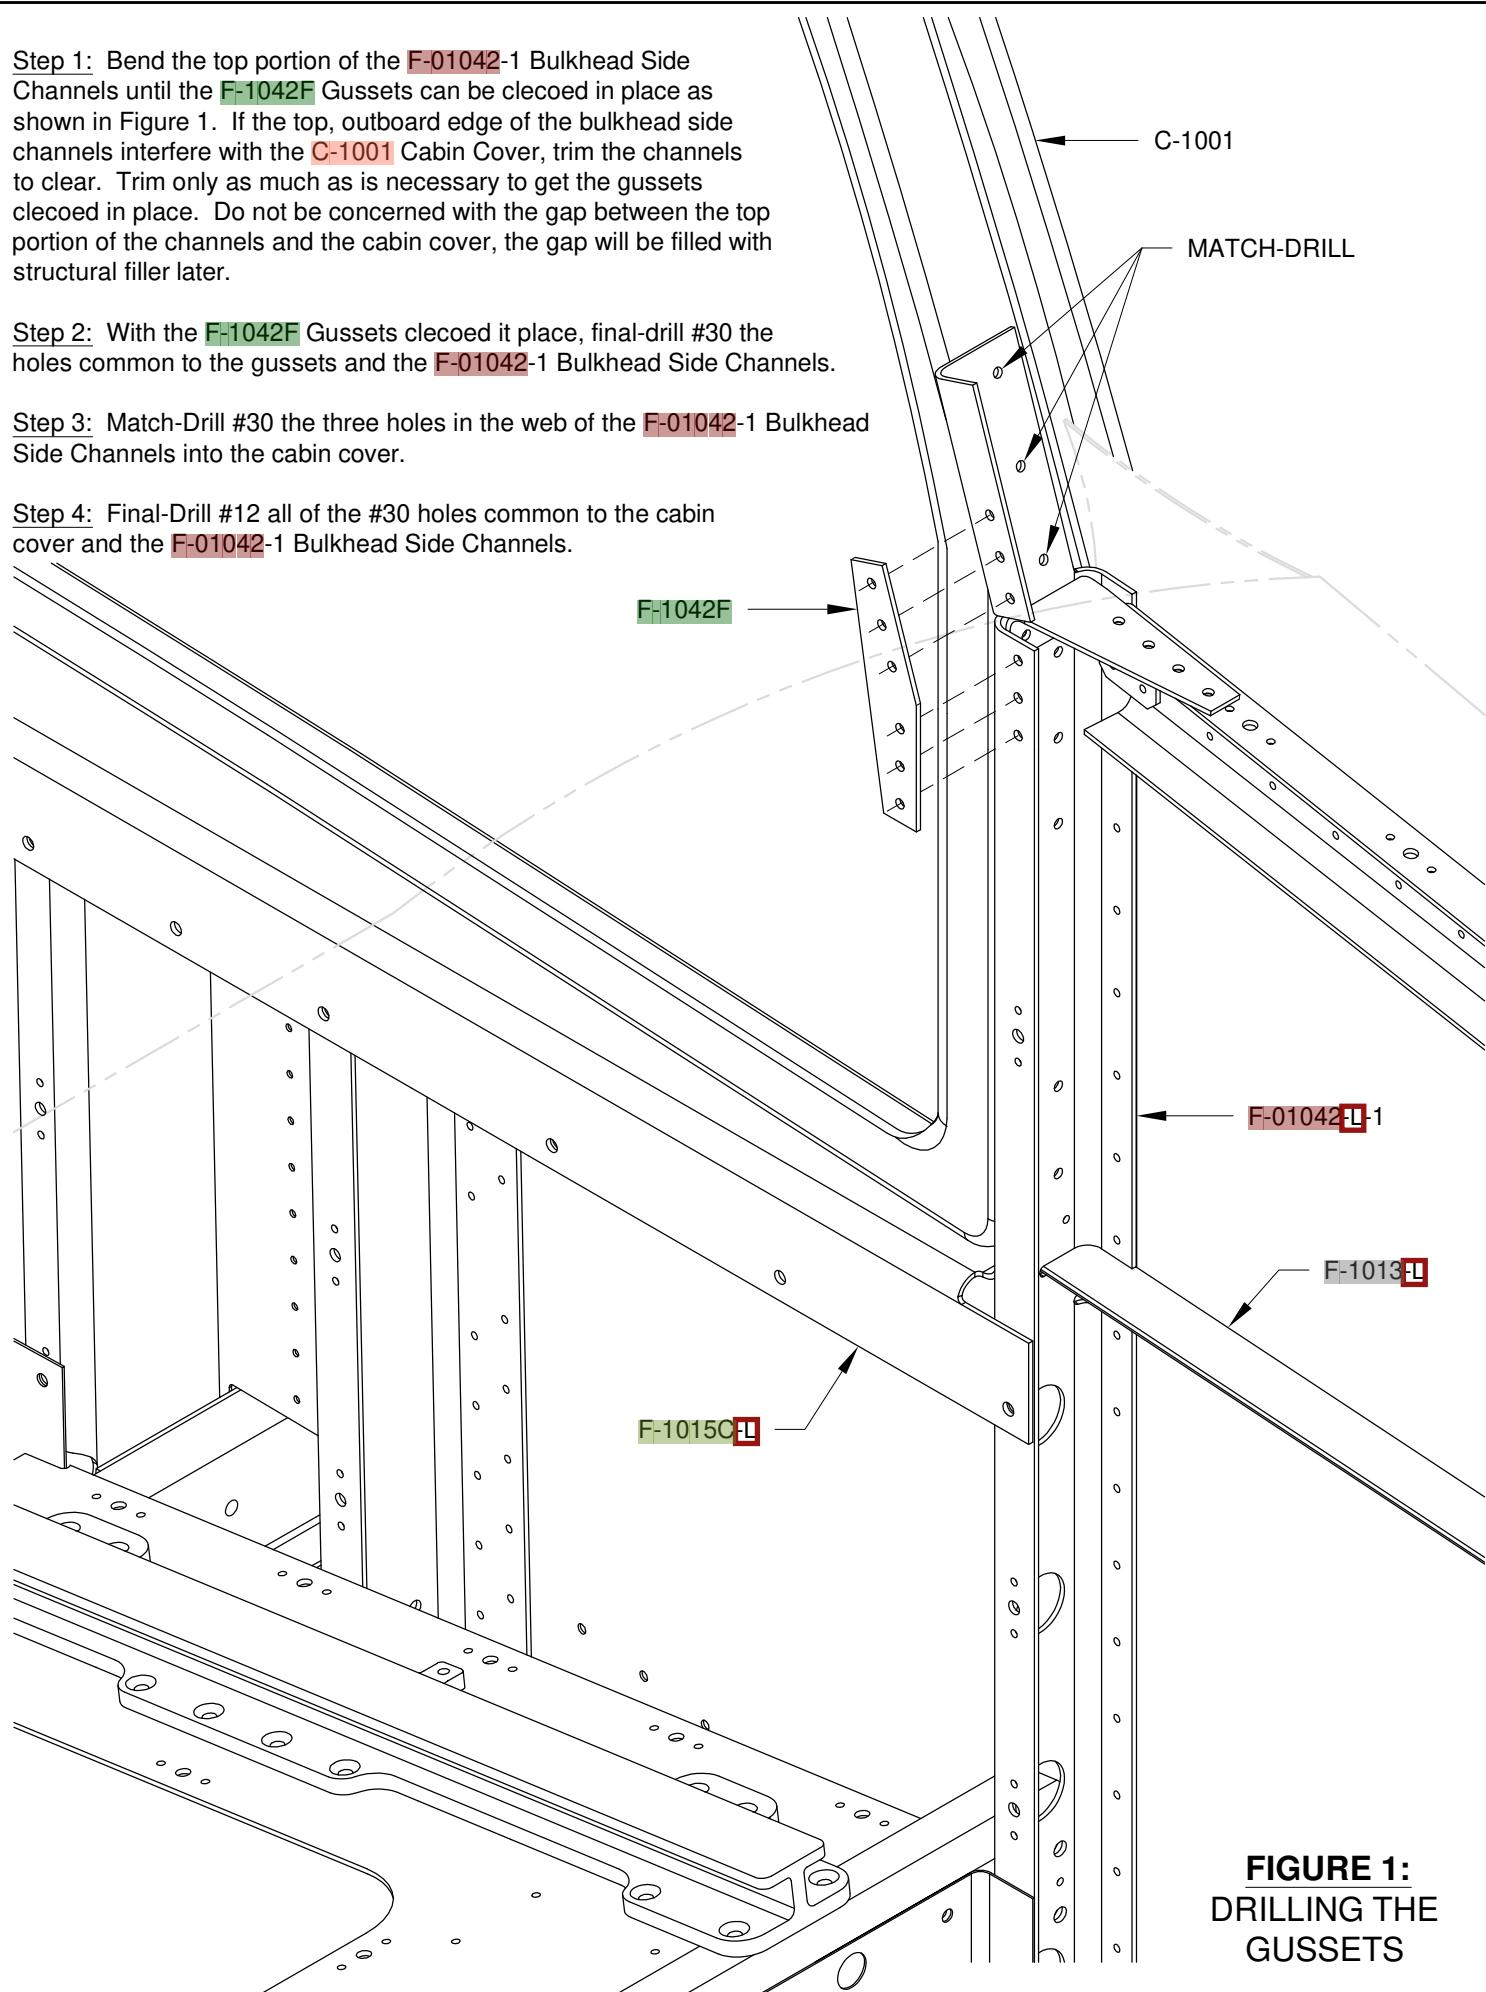

FIGURE 1:
Step 1: Bend the top portion of the F-01042-1 Bulkhead Side Channels until the F-1042F Gussets can be clecoed in place as shown in Figure 1. If the top, outboard edge of the bulkhead side channels interfere with the C-1001 Cabin Cover, trim the channels to clear. Trim only as much as is necessary to get the gussets clecoed in place. Do not be concerned with the gap between the top portion of the channels and the cabin cover, the gap will be filled with structural filler later.